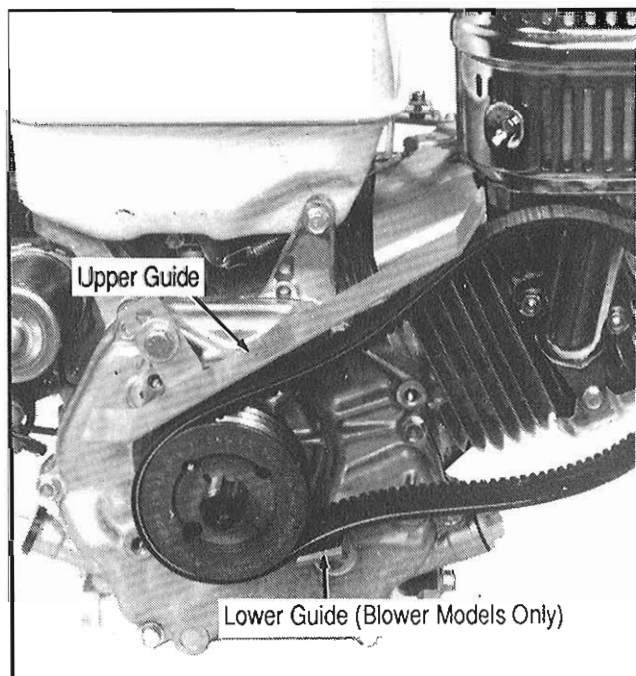

Figure 9 . Engine-mounted Belt Guides
- **Make sure that the belt guides (shown in Figure 9) are in place on the engine, and that the lower guide is positioned so that the belt bulges away from the pulley when it is slack. This helps prevent accidental engagement of the cutting blades.**